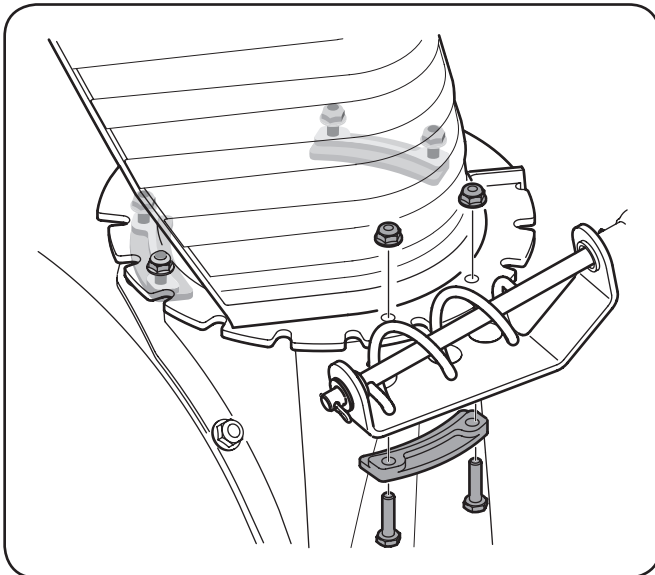

Figure 3-5
1. Remove lock nuts and screws securing one of the flange keepers to the chute assembly. Loosen the fasteners of the other two flange keepers. See Fig. 3-5.
3. Secure flange keeper removed earlier with lock nuts and screws. Tighten down nuts securing the other two flange keepers. See Fig. 3-5.